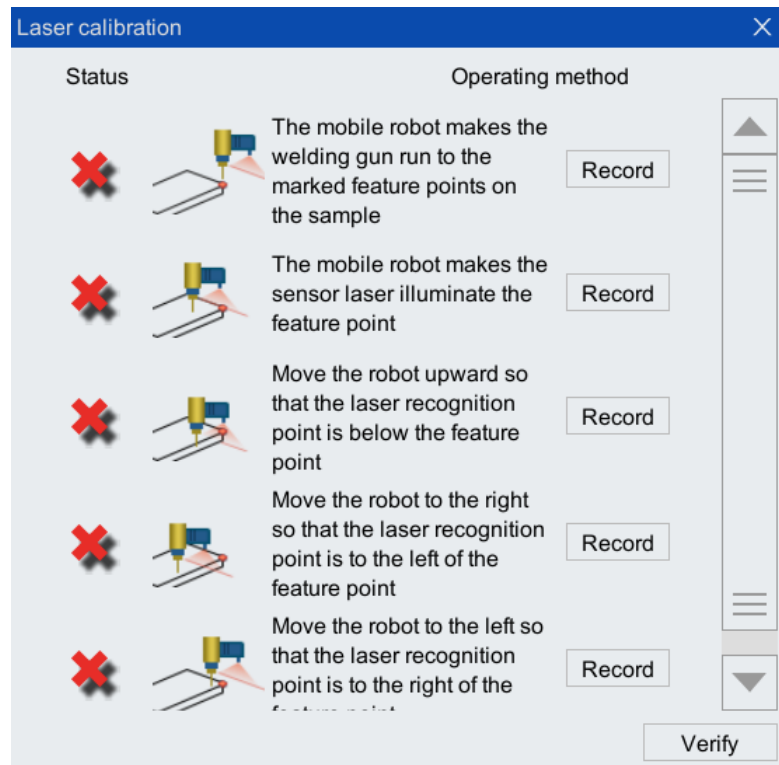

Figure 8-16 Operation steps interface
Step1. After setting the IP and port number, click <Confirm>, and the dialog box shown in Figure 8-16 will pop up.